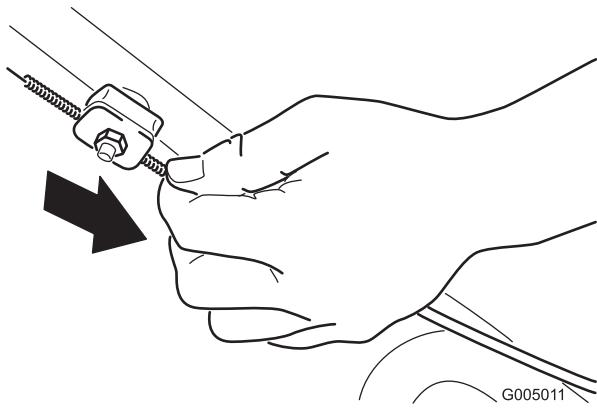

Figure 22
- Pull down the cable jacket (toward the machine) until there is no slack in the cable (Figure 22).